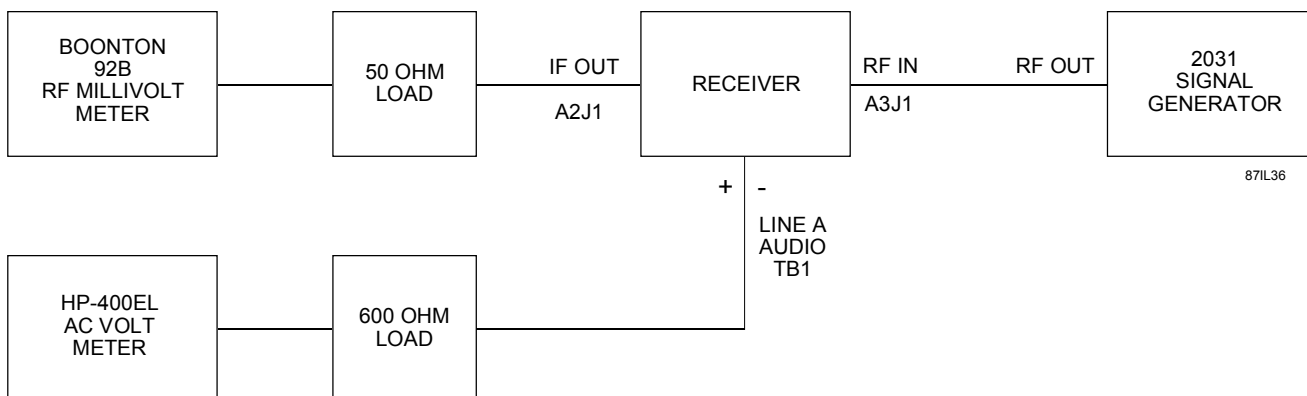

Figure 7-5. Receiver Sensitivity Performance Test Equipment Connection
1. Connect the WJ8711A Receiver and test equipment as illustrated in **Figure 7-5**.